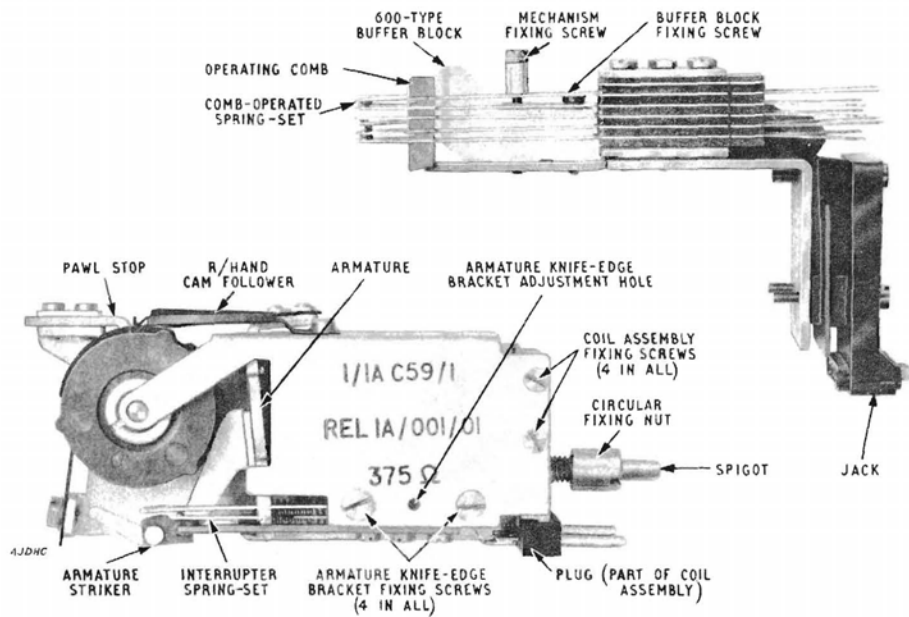

FIG. 4
6. **Removal of mechanism from rack.** After the selector or relay-set is 'busied', the mechanism of the ratchet relay may be withdrawn (see Fig. 4) leaving the spring-sets *in situ*.